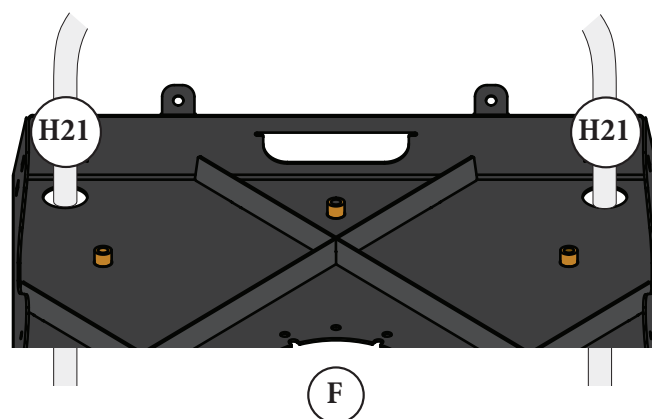

FIG. 17
Take the Tubing Assembly (H21) and route it through the closest retaining hole located in the back corner of the Stand Body (F) [FIG. 17].
*Note: Which hole you use will be determined by the orientation of your Motor Assembly (A). Use whichever hole is closest to ensure adequate length for the Tubing Assembly (H21) to connect to the Drum (K1).*